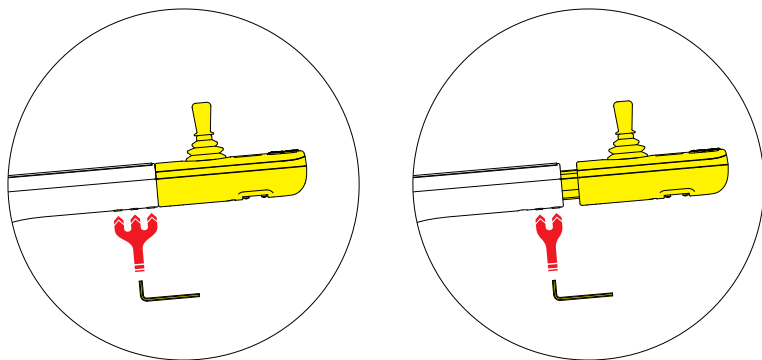

Figure 4.5.2
Step 3, use the hexagon wrench to lock the hexagon socket screw. (As shown on Figure 4.5.2)